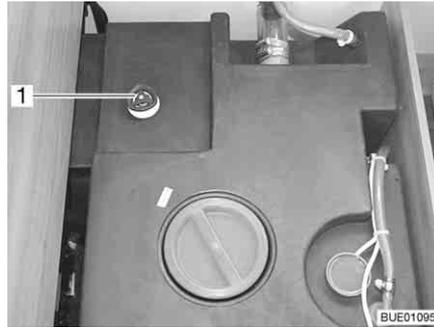

Fig. 221 Water tank with handle
- Turn the handle (Fig. 221,1) on the water tank in a clockwise direction as far as it will go.
- Turn the handle (Fig. 221,1) on the water tank in an anticlockwise direction as far as it will go. Excess water will drain away leaving 60 litres in the tank.